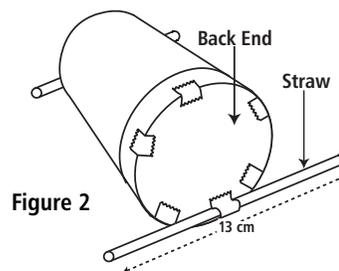

Figure 2
2. Cut a second straw 13 cm long and tape the straw to the bottom of the back end of the cup so that the straws are parallel to each other and close to the rim at each end (see figure 2).